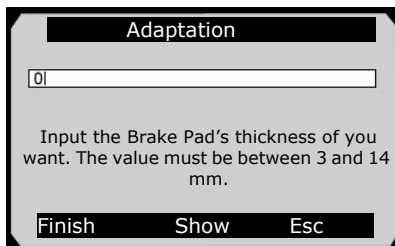

Figure 6.44
- 2) Wait a few seconds until following screen shows as Figure 6.44. Use the three function key to change the value.